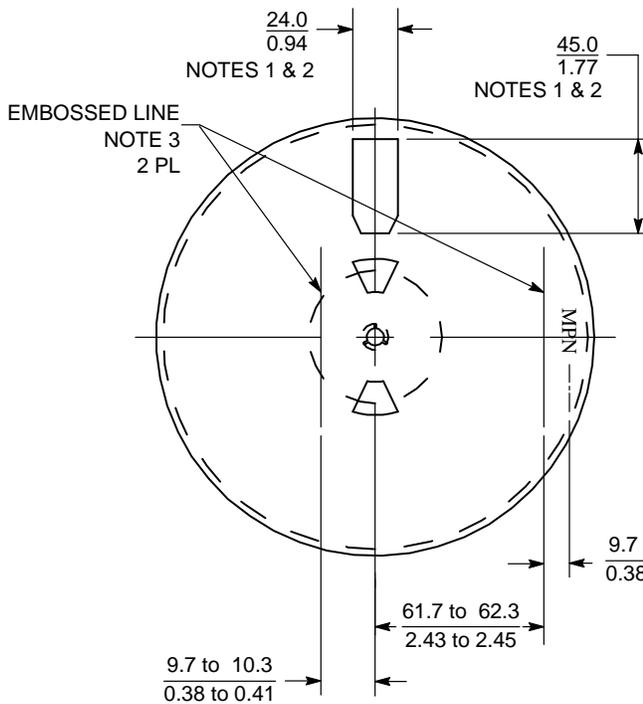

Figure 46. Front View of 178 mm (7.0 in) Reel
- If there are any flange openings on the front side of the 178 mm (7.00 in) reel they must be designed in locations so that two of the 41.3 mm (1.65 in) ON Semiconductor barcode labels can be applied parallel to each other as in Figure 46.
- Flange opening on the front and the back of the reel are a supplier option but must meet all of the requirements in Note 1. The preferred size for the 176 mm (7.0 in) reel is shown in Figure 46.
- The embossed lines on the reel are an option. If the lines are used they must be located as in Figure 46 and 47. They must be a minimum 38 mm (1.50 in) long. The thickness is a manufacturer's option and not to be used for inspection criteria.